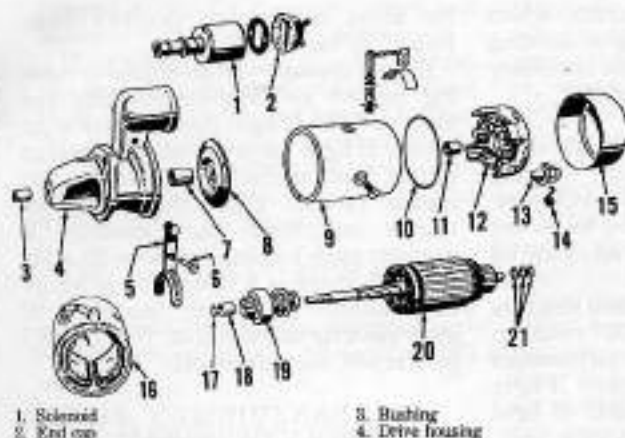

Fig. 115—Exploded view of Bosch starter showing component parts and their relative positions.
**210. DISASSEMBLY.** Remove solenoid assembly (1—Fig. 115) and pivot pin (6). Remove through-bolts and end cover (15). Lift brushes (13) from brush boxes and remove brush holder assembly and note number and thick-
**214. REASSEMBLY.** Reassemble by reversing disassembly procedure. Renew shims (21—Fig. 115) to thickness noted during disassembly.